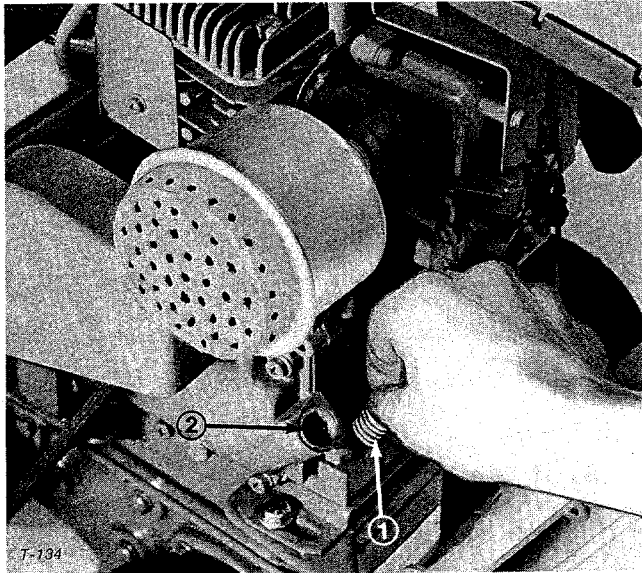

Figure 29
2. Unscrew the oil fill plug and remove it from the fill hole (Fig. 29).
4. Install and securely tighten fill plug (Fig. 29).
3. Install drain plug; remove oil fill plug (Fig. 29), assure engine is level and fill crankcase with fresh clean oil; refer to Add Oil, page 8 or to check the oil level, item 3 above.